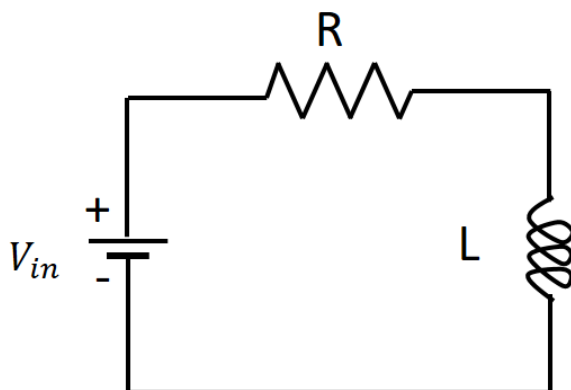

Fig. 2.3: Circuit diagram of the LC experiment
1. Connect the circuit as per the Figure 2.3.